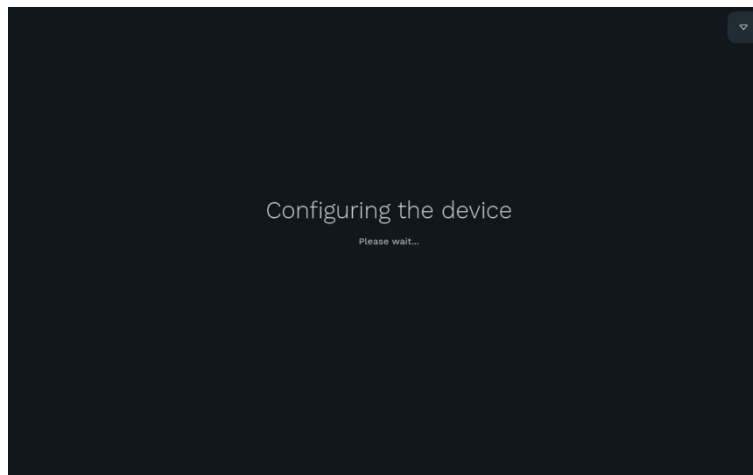

Fig. 24 - Device configuration
11. Wait for the device configuration (Fig. 24).